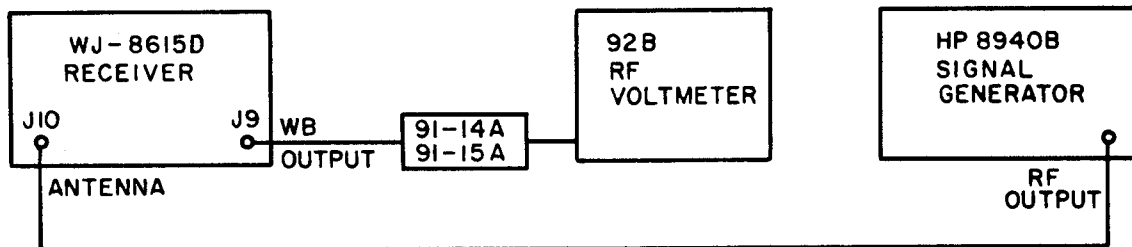

Figure 4-35. Wideband Amplifier, Equipment Connections
- 1) Connect the test equipment as illustrated in **Figure 4-35**.